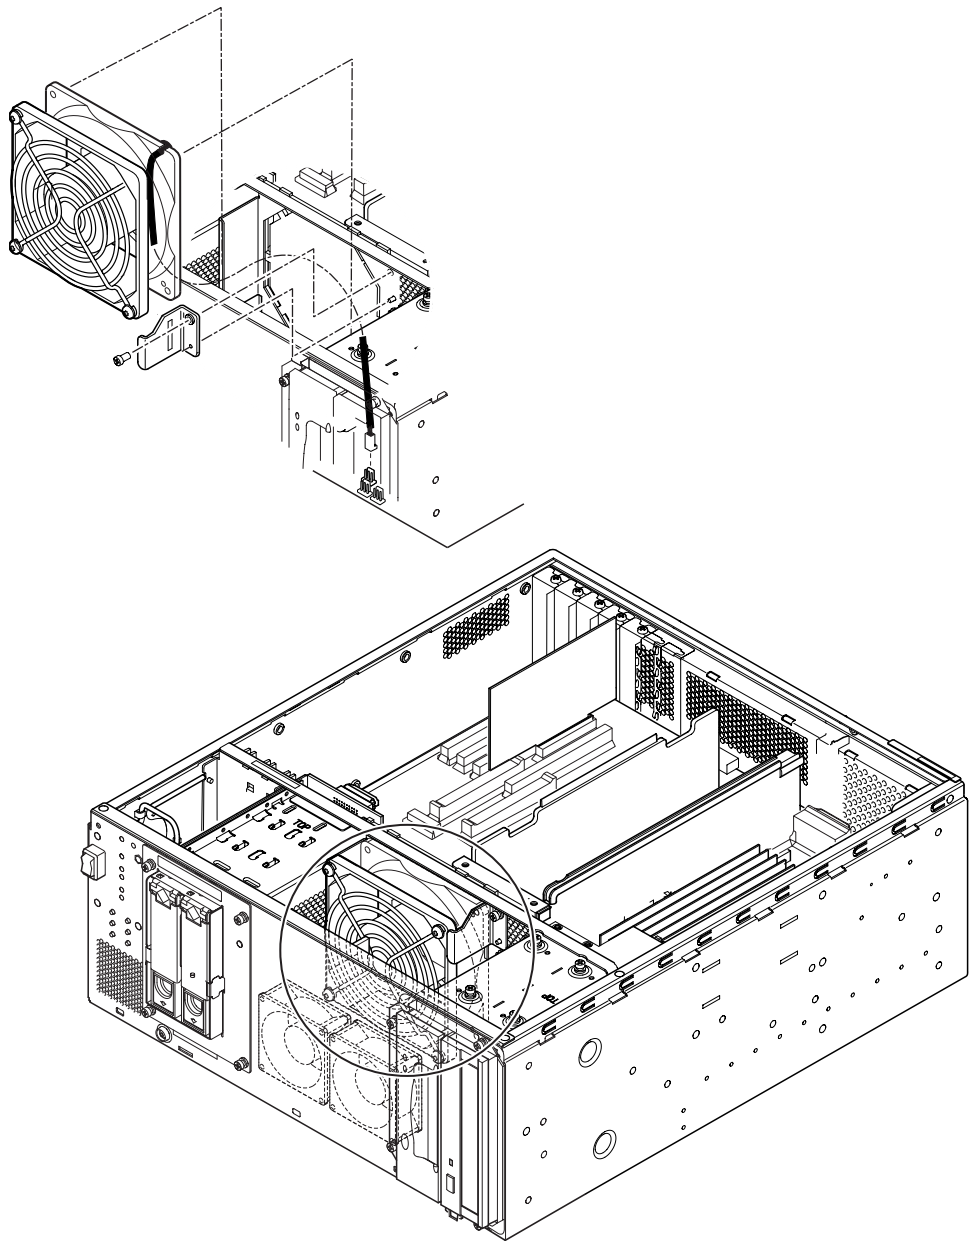

FIGURE 7-3 CPU Fan
2. Orientate the fan so that the arrow on the body is pointing towards the rear of the chassis, the fan grill is facing towards the front of the system and the cable exits from the right (see FIGURE 7-3).